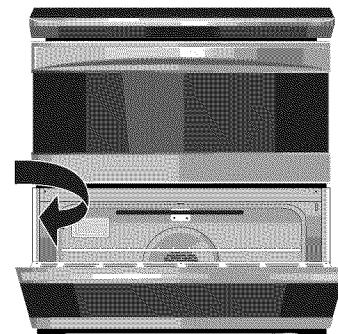

Figure 2
1. Remove the 3 screws at the lower end of the rear wire cover, then bend the lower end of the rear wire cover (access cover) upward to expose range terminal connection block (see Fig. 2).
1. Remove the 3 screws at the lower end of the rear wire cover, then raise the lower end of the rear wire cover (access cover) upward to expose range terminal connection block (see Fig. 2).